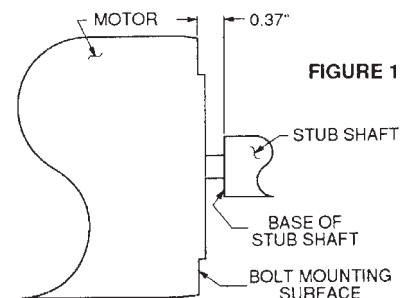

FIGURE 1
1. Liberally apply Loctite RC/680 retaining compound to the motor shaft and slide the stub shaft on, positioning the base of the stub shaft 0.37" from the bolt mounting surface of the motor and two of the four set screw holes over the keyway in the motor shaft. For clarification refer to Figure 1 below. Loctite aids in preventing fretting and subsequent shaft failure. Apply Loctite to the two dog point (flat point) set screws, position in the set screw holes aligned with the keyway of the motor shaft and torque to 55 - 60 in. lbs. Apply Loctite to the two cup point set screws and torque to 85 - 90 in. lbs. Wipe off excess Loctite.